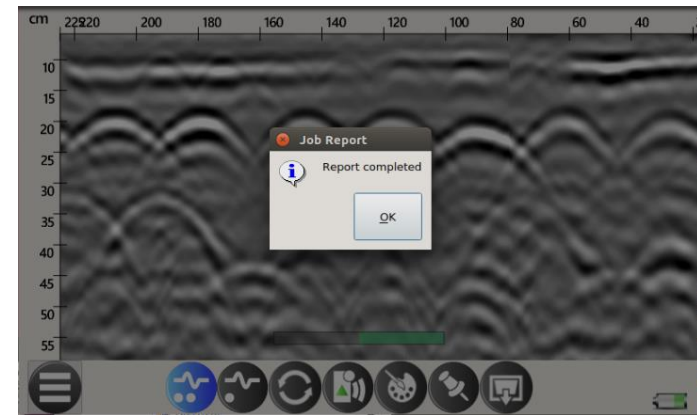

Fig. 72 – Advise when a screen shot (Job Report) is completed and saved in the survey folder
- I.  From every screen of a single scan or Grid mode, using this button it is possible to make a screen shot of what is currently displayed on the screen (toolbar excluded). The screen shot will be saved as .jpeg file in a proper folder which will be automatically created in the survey folder; after saving, a message of “Report completed” will be shown on the screen (Fig. 72).